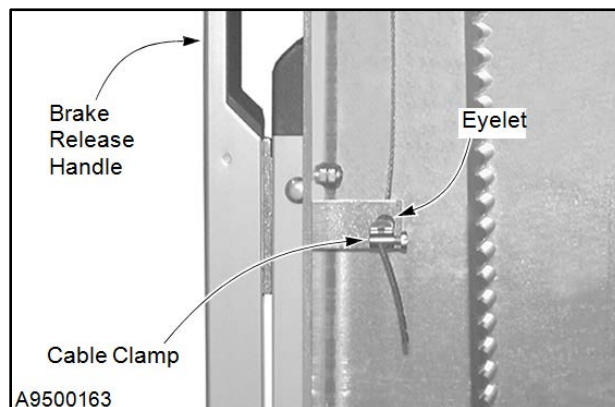

Figure 31
3. Make sure the brake release handle is in good working order and securely fastened to the left side column. Replace any missing or damaged hardware as required. (See Figure 31.)